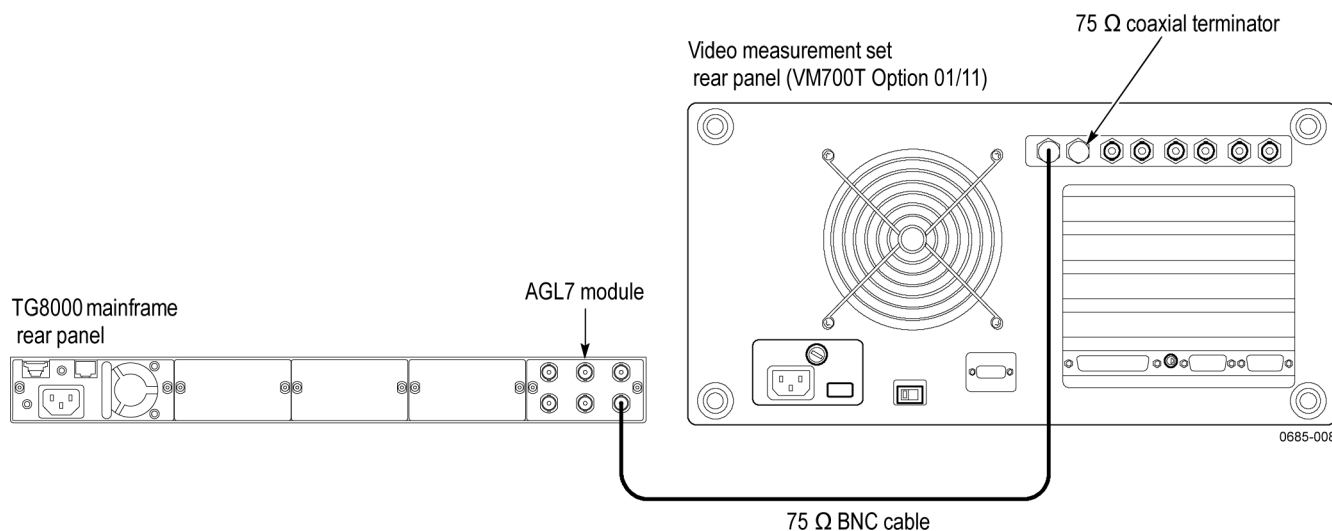

Figure 8: Setup for burst and sync amplitude test
8. Disconnect the BNC cable from the 75 Ω feed-through terminator on the oscilloscope input, and then connect the BNC cable to the CHAN A connector on the video measurement set as shown in the following figure. (See Figure 8.)